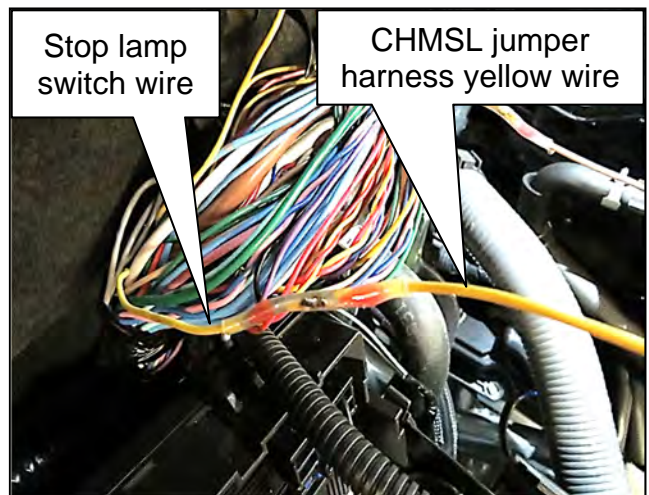

Figure 42
37. Connect the CHMSL jumper harness' yellow wire to the passenger (RH) side stop lamp switch yellow wire end using a solder sleeve connection.
- Heat the solder sleeve, using a flameless heat gun, special tool J-46538, until the solder has been fully melted into the wires, as shown in Figure 42.